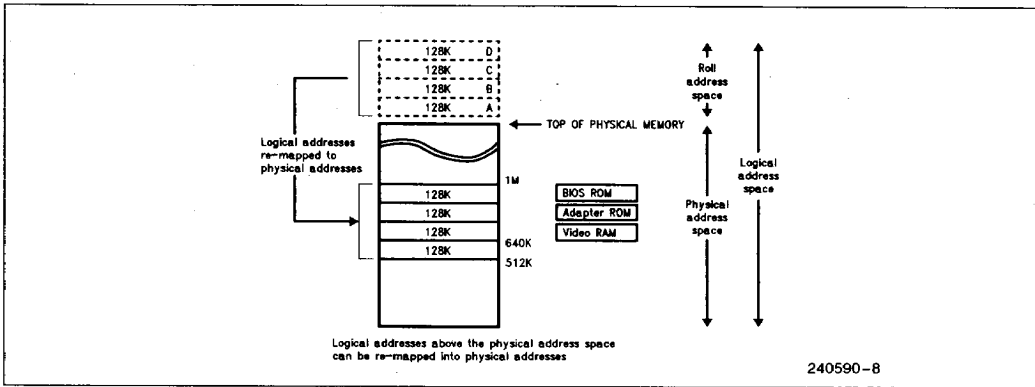

Figure 2.6. Roll Address Mapping Range
The 82335 SX allows two memory address spaces to be defined; physical and logical. The physical address space corresponds to the amount of DRAM physically connected to the 82335 SX (e.g., one bank of 1M DRAM has the physical address space 0M-2M). The logical address space is the address range that the microprocessor sees as usable. The 82335 SX allows the logical address space to be larger than the physical address space. This is done by remapping logical addresses from above the physical address space (the "roll address" region) into the physical address space hidden by the ROM and video RAM areas. The physical memory between 512K and 640K may also be roll addressed when a 512K base memory is selected. Figure 2.6 illustrates address rolling from a logical to a physical address.
*Figure 2.6 illustrates logical memory block order